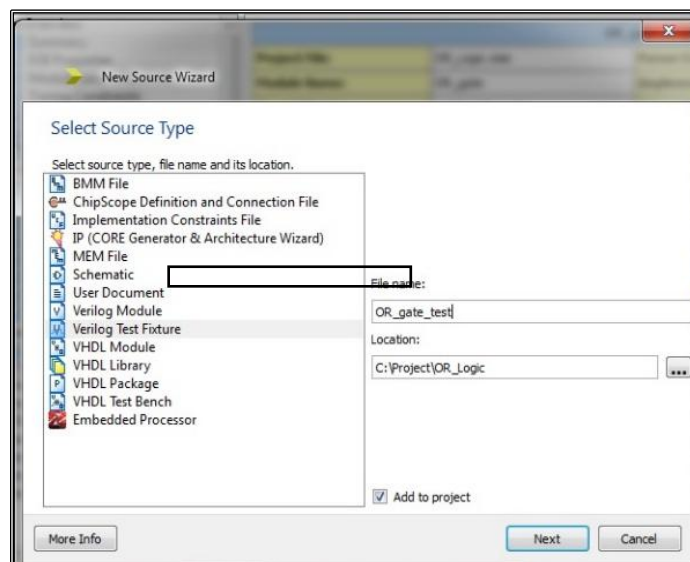

Fig 1.14: Verilog Test bench
- Now in order to check the **functionality** of the design, we have to apply test vectors and simulate the circuit. In order to apply test vectors, a **test bench** file is written. Through test bench, all the possible inputs are applied to the module and the output is verified. For the two inputs “OR_gate” the test bench can be created by one of the following methods. Either right click on the design (OR_gate.v) and select **New Source** or, click on **New Source** from the **Project** menu. A **New Source Wizard** window will be opened. In the New Source Wizard window select **Verilog Test Fixture** as shown in the Fig 1.14.